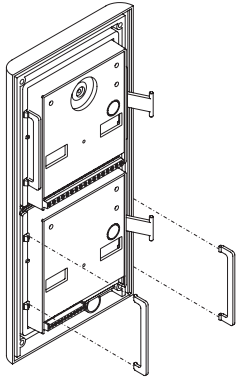

Fig.3a
3. Before installation of the module support frame, hook the modules **g** to the support frame **h** as shown in figure 3 then, as shown in figure 3a, fit the two anti-tampering locks for each module (do the same for the second module support frame);